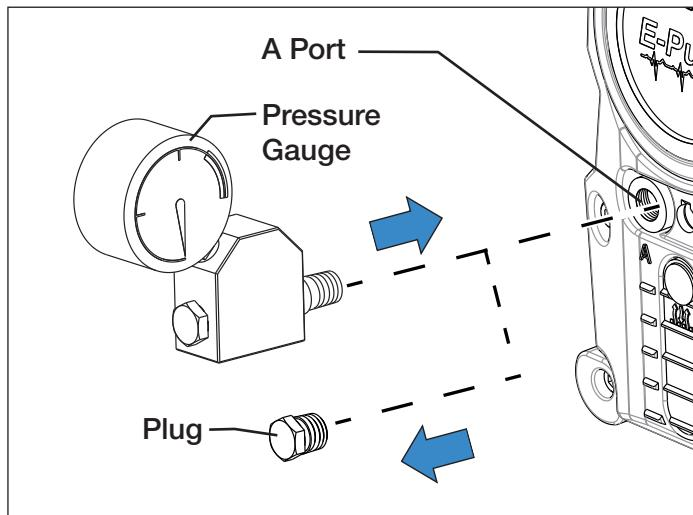

Figure 9, Pressure Gauge Installation
4. **Pumps NOT equipped with built-in pressure gauge:** Install a 0-15,000 psi [0-1000 bar] hydraulic pressure gauge in the pump "A" port. See Figure 9.